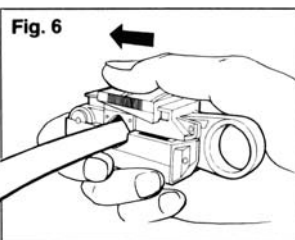

Fig. 6
E. Push slide forward to appropriate start position. (see fig. 6).
Note: Adjust the tool so that the appropriate slide progression works. (fig. 6. If your cable size does not appear in Fig. 6, develop your own 2- or 3-stage sliding sequence.